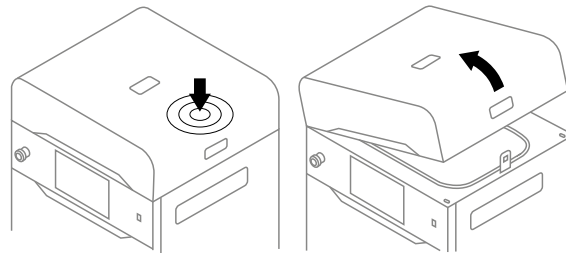

Fig. 8.2 Lifting the printer lid.
4. Push on the lid and pull it up using the handle (fig. 8.2).